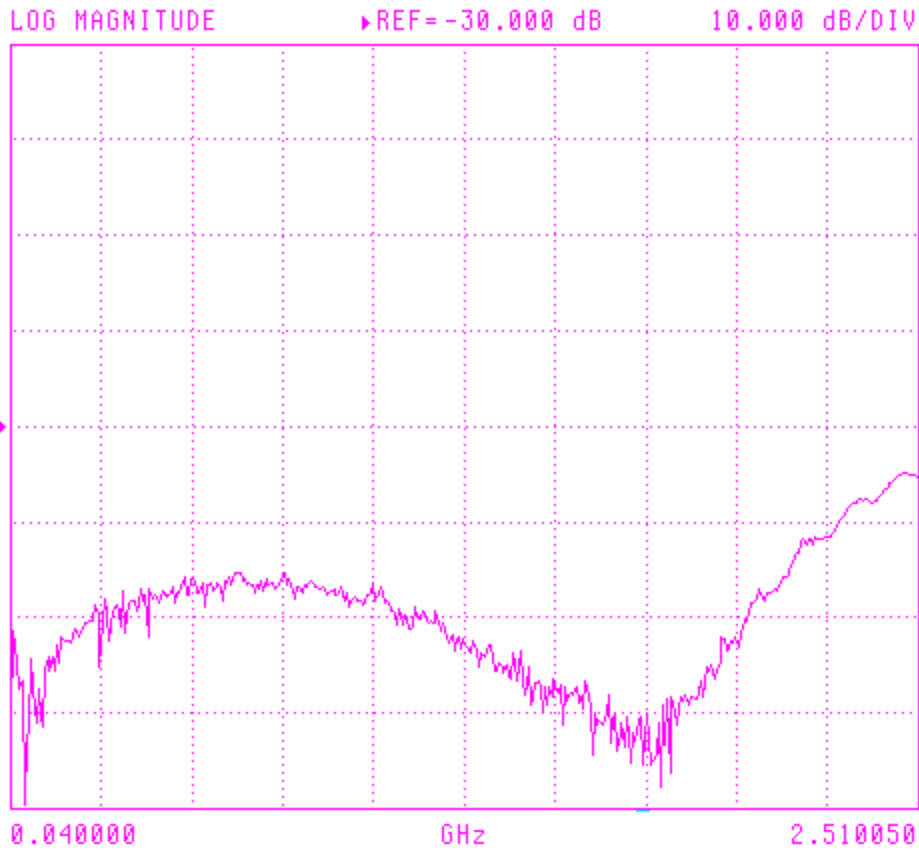

Figure 4
- Figure 4 : Isolation Measurement / Common to Inactive Port.
Isolation / Pole to Inactive	Fig. 4